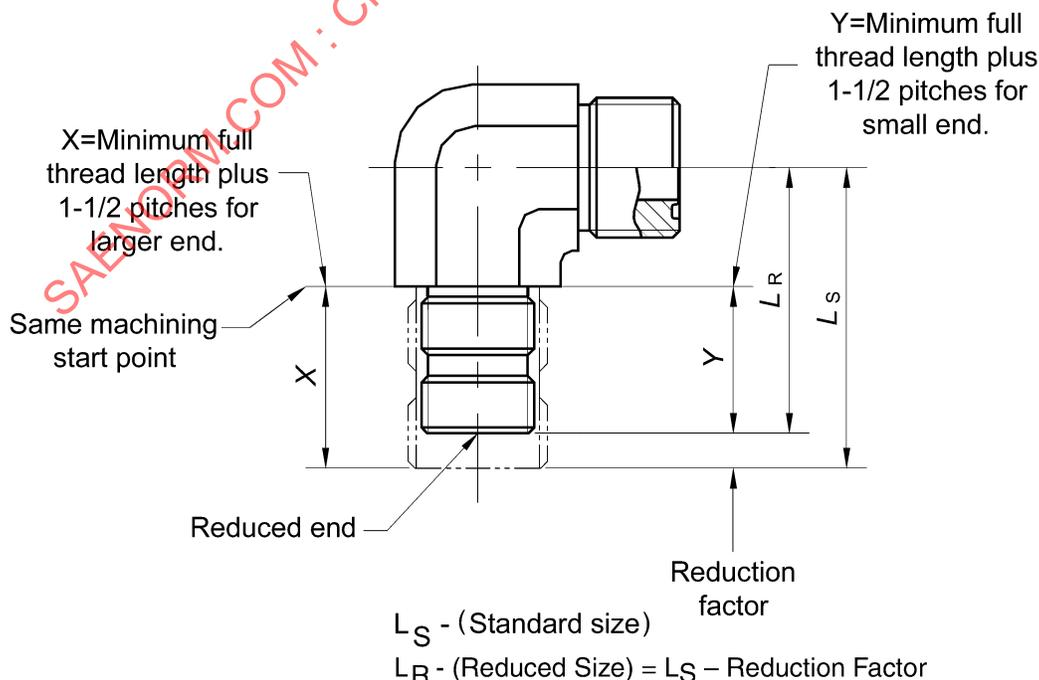

FIGURE A1 - STUD END REDUCTION
- Length dimensions were derived by maintaining the standard hexagon thickness for straight union connectors, and the standard centerline to start of machining point for shaped connectors as seen in Figures A1 and A2. For straight stud connectors the total width of hex and the identification collar (ring) for the larger sizes is held constant.
- The factors given in Tables B2 and B4 were derived by subtracting the standard machining length (minimum full thread length, with thread run out, plus an allowance of 1-1/2 pitches for imperfect thread length) required for the smaller end from the same value required for the larger end and rounding the result to nearest half millimeter (see Figure A1).